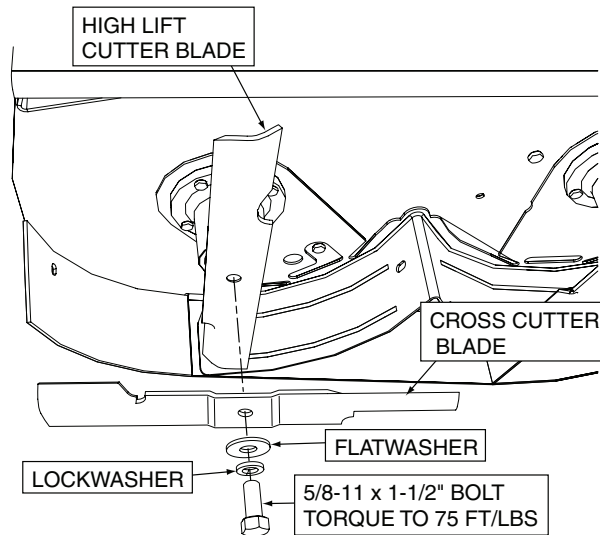

Figure 3-3. Remove High Lift Blades and Cross Blade
5. Remove the high lift cutter blades and cross blade from the cutter deck. To remove the cutter blades from the spindles, install a 1" open-end wrench on to the flats provided on the spindle shaft (use optional Blade Buddy tool P/N 9212 to assist in securing the cutter blades). This will allow you to hold the spindle in place and prevent it from rotating as you remove the blade mounting bolt. Use a 15/16" box wrench or socket to remove the blade mounting bolt. See Figure 3-3. Be sure to retain the bolts, lockwashers and flatwashers as the hardware will be needed to install the cutter blades included with this grass catcher.